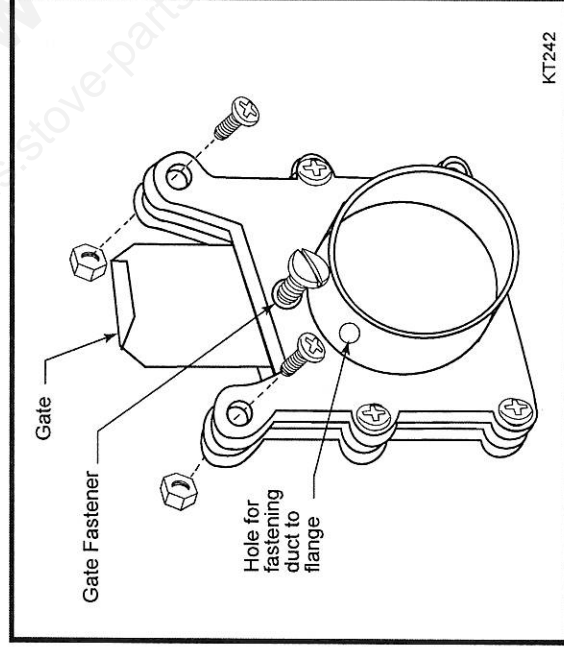

Fig. 8 Preparing the adapter.
1. Remove the top two bolts and nuts from the adapter, as shown in Figure 8.
2. Make sure the top tab of the sheet metal gate, and the round-head bolt that holds the gate open, are on the same side of the assembly. Turn the gate fastener clockwise to fasten the gate open. (Fig. 8)